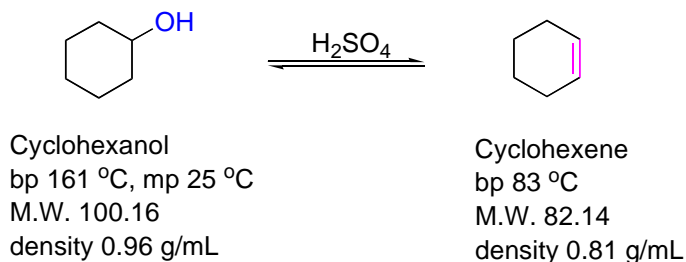

Figure 1. The overall reaction.
**Elimination reactions.** In this experiment, cyclohexanol will be dehydrated (loss of  $H_2O$ ) to form cyclohexene under acidic conditions (see Figure 1).